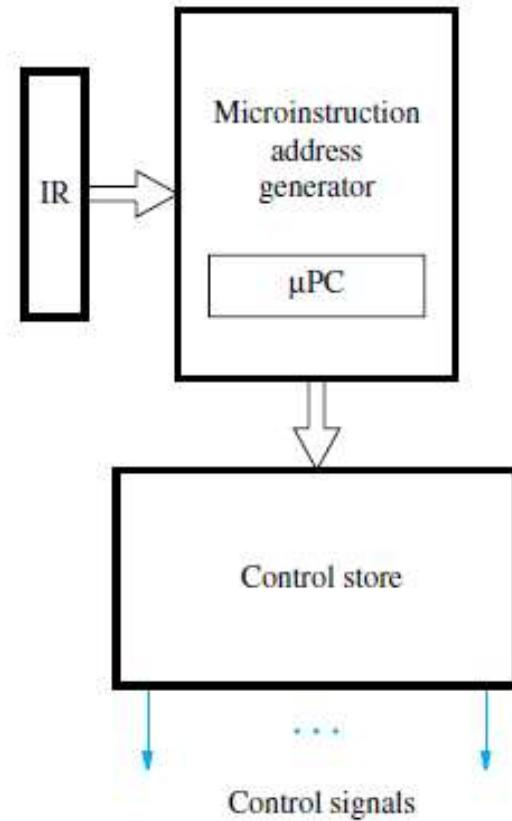

Figure 5.27 Microprogrammed control unit organization.
- Principle of microprogram control: Figure 5.27